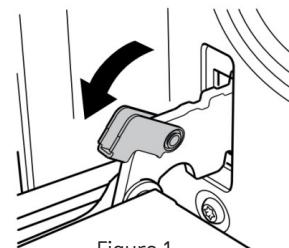

Figure 1
1. Open the door to the maximum angle and pull the lock back at the hinge of the door (Figure 1). There are two locks on both sides of the oven door.